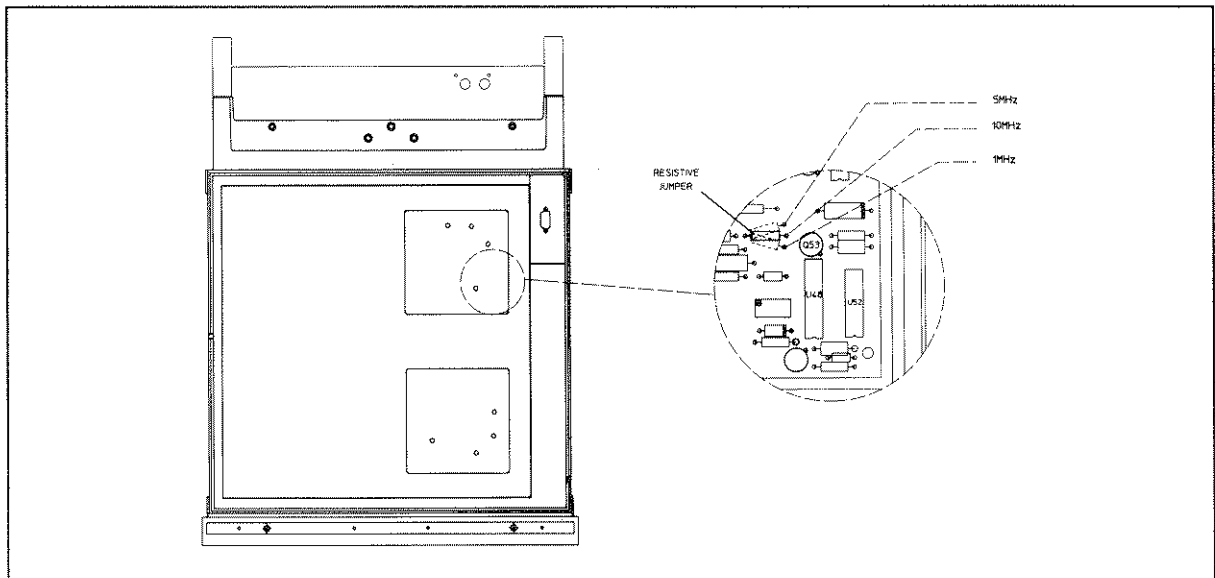

Figure 2-2. Time Base Jumper Location
- c. Refer to Figure 2-2. Locate the A3 50 MHz Reference Oscillator. Using a 1/4 inch wrench (spanner), slacken the eight retaining nuts(2 per side) which secures the top cover. Then remove the top cover. Locate the time base selection link.